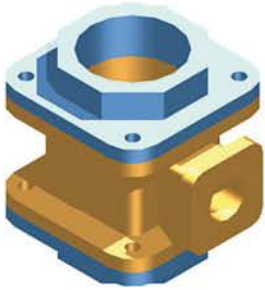

Fig. 18.8 Second example UCS
11. Turn layer 0 back on and move the top into its correct position relative to the main part of the valve. Then, with the **Mirror** tool, mirror the top to produce the bottom of the assembly (Fig. 18.8).